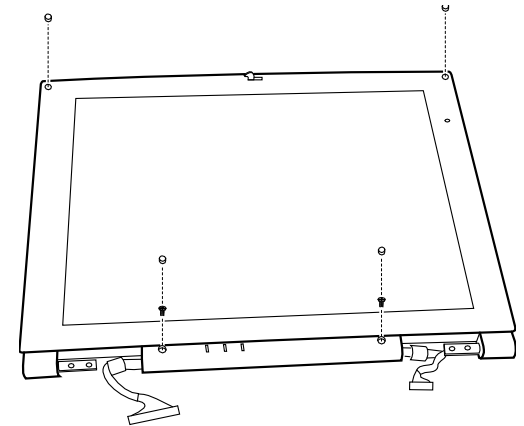

Figure 5-23. Removing the 13.3 Inch LCD Frame
2. Fit the LCD frame back to the housing and replace the two screws and four rubber pads. (fig 5-23)